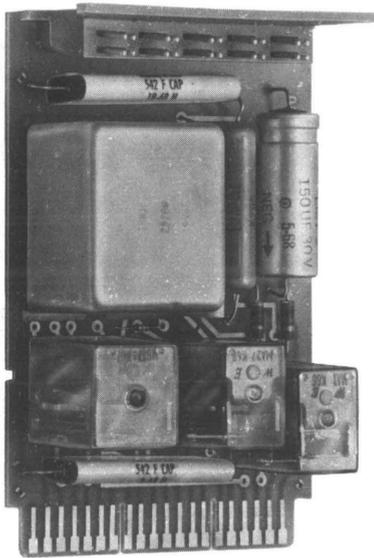

Fig. 8—108A Interconnecting Unit (formerly 433A [MD] KTU and F48004 [MD] KTU)
**2.08 108A Interconnecting Unit**—A 4-inch circuit pack for use (a) in the interconnection of a Bell System CO line with a customer-provided manual cord switchboard with supervision (intended to mount in a 700A interconnecting service unit), or (b) in the interconnection of a Bell System CO line to a customer-provided one-way incoming trunk associated with the attendant position of a customer-provided PBX. For the latter application, the 108A interconnecting unit may be mounted in the 604-type or 615A panel. (See Fig. 8.)